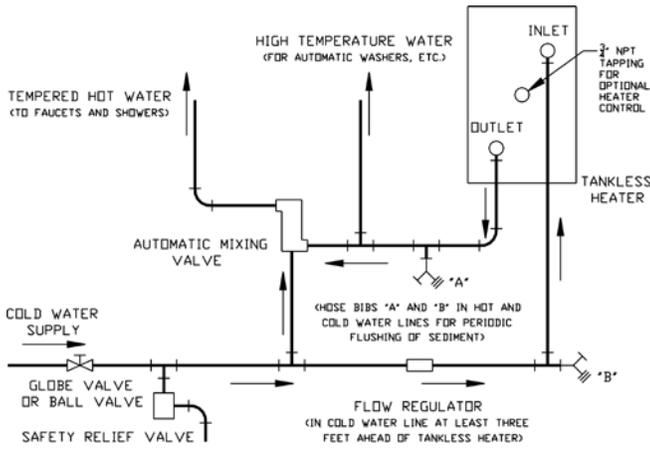

Figure 41: Schematic Tankless Heater Piping
1. Hot Water Boiler/Tankless Coil(s) – Tankless coils, mounted into the side of the boiler(s), have been used successfully for many years and may be used in single and multiple boiler applications. When a boiler is arranged with tankless coils, it is not recommended that outdoor reset be used, unless there are controls in place to prevent overheating of the space heating zones. Figure 41 depicts
All water contains some sediment which settles on the inside of the coil. Consequently, the heater should be periodically backwashed. This is accomplished by installing hose bibs as illustrated in Figure 41 and allowing water at city pressure to
O. CONNECT TANKLESS HEATER PIPING as shown in Figure 41. See Table V for Tankless Heater Ratings.
If flow through the heater is greater than its rating, the supply of adequate hot water may not be able to keep up with the demand. For this reason a FLOW REGULATOR matching the heater rating should be installed in the cold waterline to the heater. Refer to Figure 41 for piping recommendations. The flow regulator should preferably be located below the inlet to the heater and a minimum of 3 feet away from the inlet so that the regulator is not subjected to excess temperatures that may occur during “off” periods when it is possible for heat to be conducted back through the supply line. The flow regulator also limits the flow of supply water regardless of inlet pressure variations in the range of 20 to 125 psi.